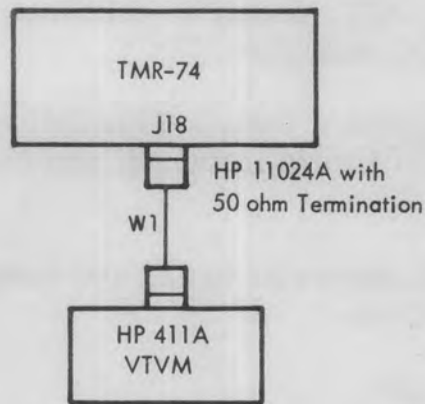

Figure 5-5. Equipment Setup for First LO Output Test
- a. Connect equipment as shown in figure 5-5. Set controls as follows: